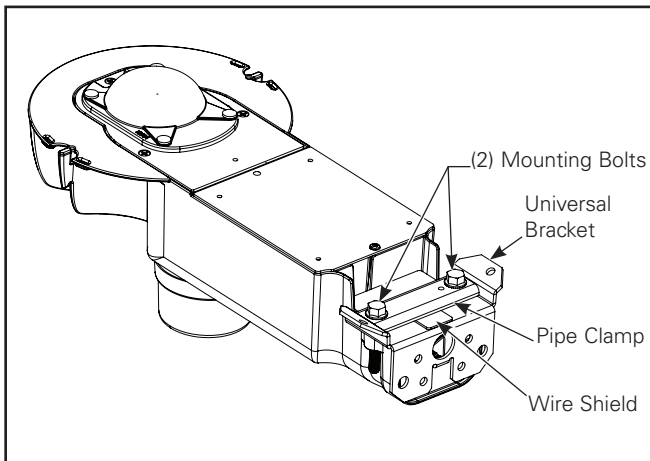

Figure 1.
1. Use a 1/2" socket wrench to remove wall/pole mount bracket from fixture and set aside two fixture mounting bolts and wire shield. Discard pipe clamp bracket. (Figure 1.)